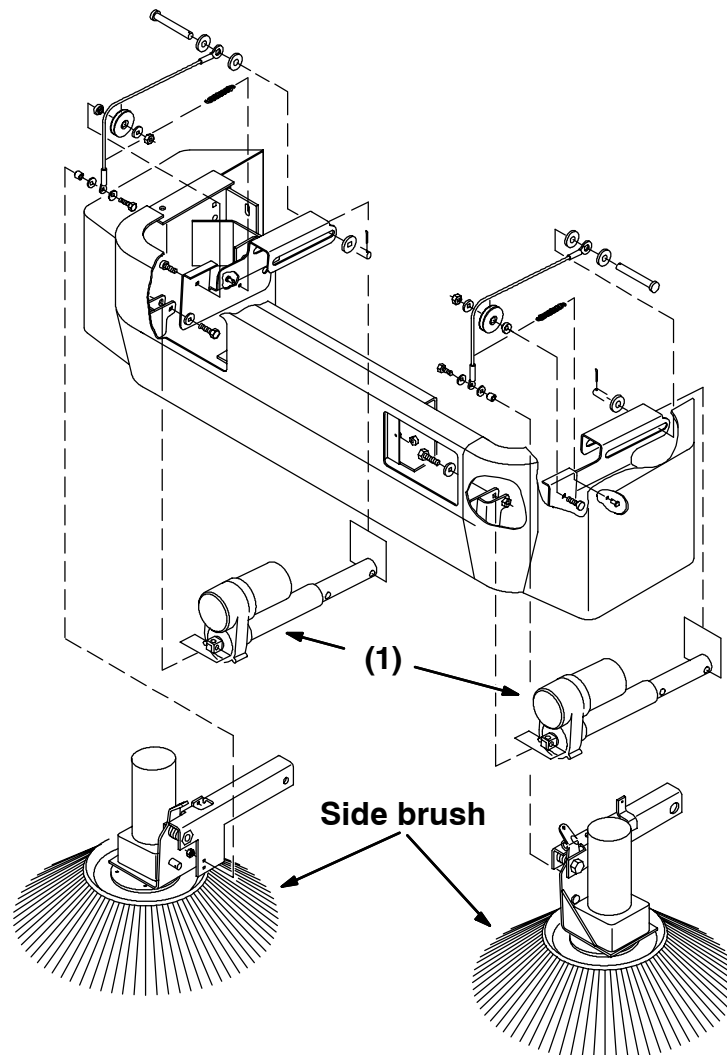

FIG. 2 - Side Brush Lift Actuator
(Refer to FIG. 2 and 3)
2. Remove the side brush from the side brush motor. (Refer to FIG. 2 and 3)
5. Remove the cotter pin and clevis pin from the tube end of the lift actuator where the lift cable is attached. (Refer to FIG. 2 and 3)
8. Open the hopper cover and locate the side brush lift actuator. (Refer to FIG. 2 and 3)
10. Disconnect the side brush lift actuator from the hopper harness. (Refer to FIG. 2 and 3)
11. Remove the hex screw from the motor end of the side brush lift actuator. (Refer to FIG. 2 and 3)
12. Remove the old actuator from the machine. (Refer to FIG. 2 and 3)
13. Position the new actuator (1) in the side brush area of the hopper bumper. The actuator motor end points to the front of the machine. Make sure the actuator is in the retracted position. (Refer to FIG. 2 and 3)
14. Install the hex bolt in the motor end of the side brush lift actuator. (Refer to FIG. 2 and 3)
16.Reinstall the head light. (Refer to FIG. 2 and 3)